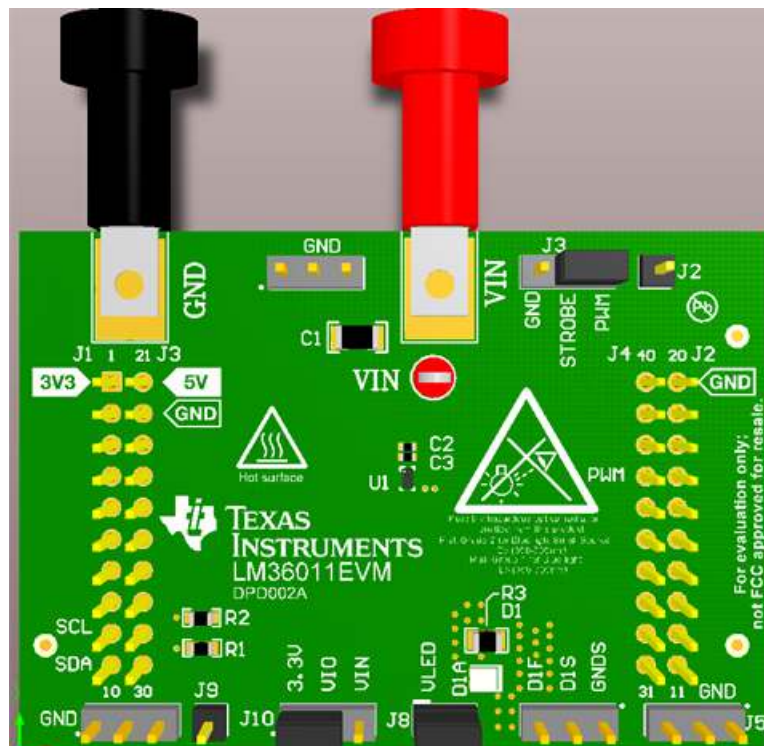
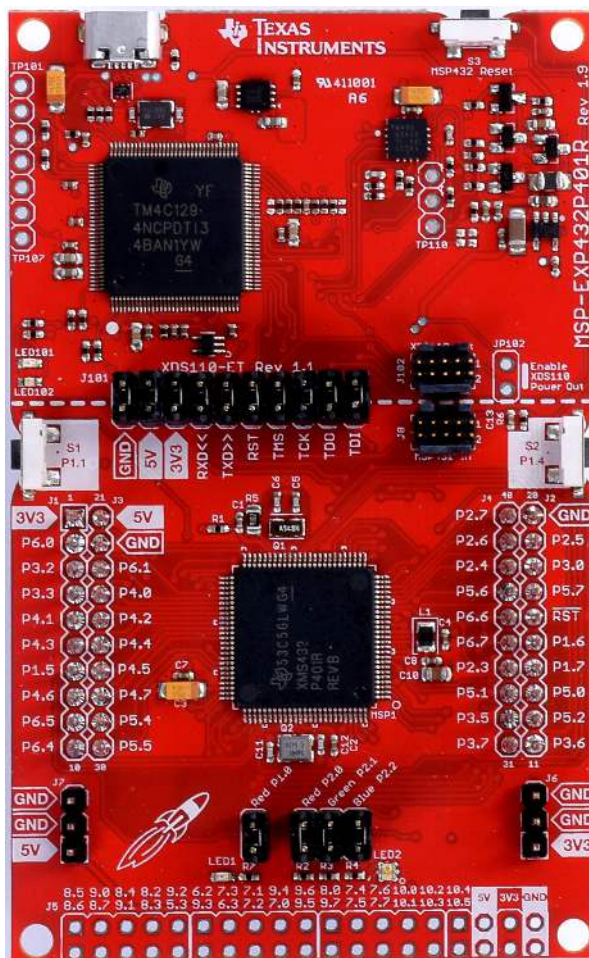

Figure 4. LM36011EVM Jumper Configuration
Figure 7. MSP432 LaunchPad Jumper Configuration
Configuration of LM36011EVM jumpers is as shown in Figure 4.
1. Verify jumper configuration on the MSP-EXP432P401R LaunchPad and the LM36011EVM as in Figure 7 and Figure 4, respectively.
Configuration of MSP432 LaunchPad jumpers is as shown in Figure 7.